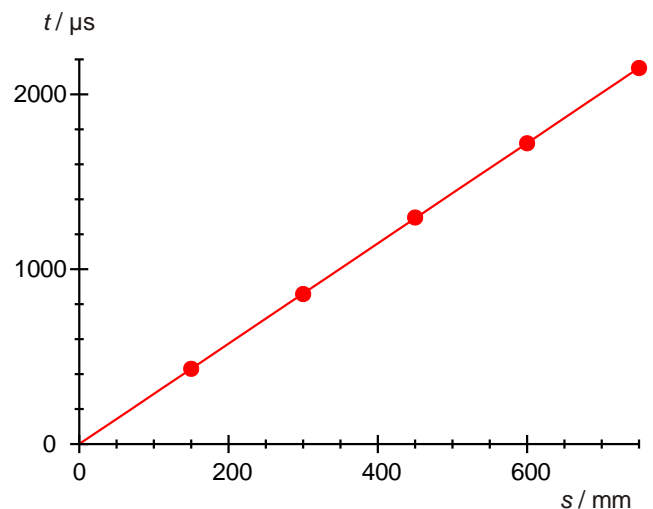

Fig. 3: Sound propagation time t in air as a function of the travelled distance s at room temperature.
- Plot the time t taken for the sound to cover the set distance s in a graph (Fig. 3).